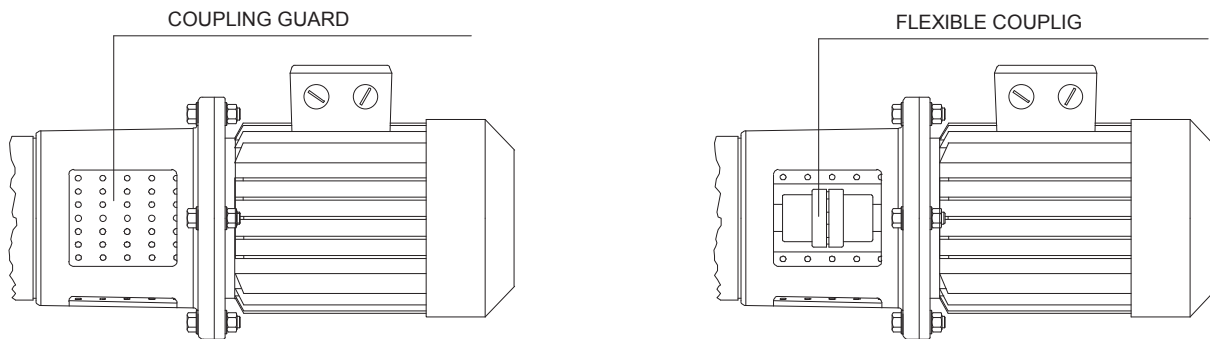

Fig. 16 - CHECKING ALIGNMENT ON MONOBLOCK DESIGN
- 3 - Applying slight hand pressure to the coupling guard, rotate it so that one opening of the lantern is accessible (see fig. 16).